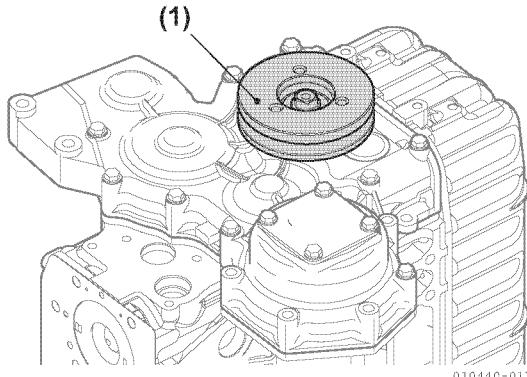

Figure 5-45
37. Loosen the nut holding the crankshaft V-pulley and remove the crankshaft V-pulley (**Figure 5-45**) with an extraction tool . When loosening the nut holding the V-pulley, be sure to use the correct tool to prevent rotation of the crankshaft.